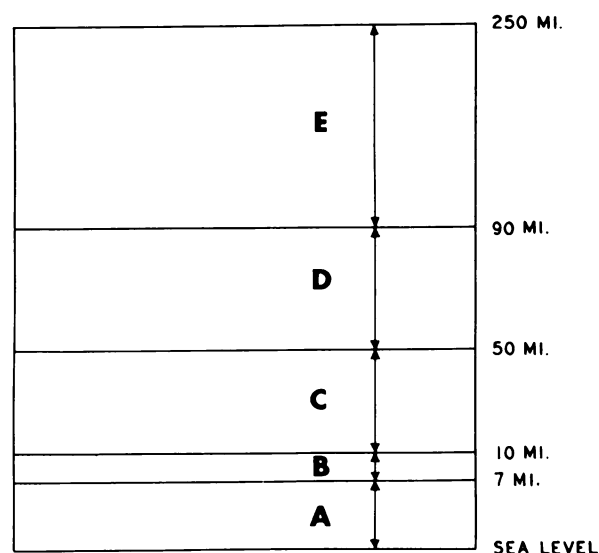

Figure 1A.—Diagram representing the atmosphere divided into regions.
27. If the air density at the bottom of region A in figure 1A is approximately 0.075 pounds per cubic foot, what is the density at the top of region A?
28. Because of the continuously decreasing air density, the drag on a rising missile decreases. The decrease in drag per unit change in altitude is greatest in the region of figure 1A labeled
1. top of region A in figure 1A
2. middle of region A in figure 1A
3. middle of region B in figure 1A
4. top of region C in figure 1A
30. The temperature remains fairly constant in the region of figure 1A labeled
31. If the air temperature at sea level is  $30^{\circ}\text{F}$ ., the air temperature in the middle of region A in figure 1A is about